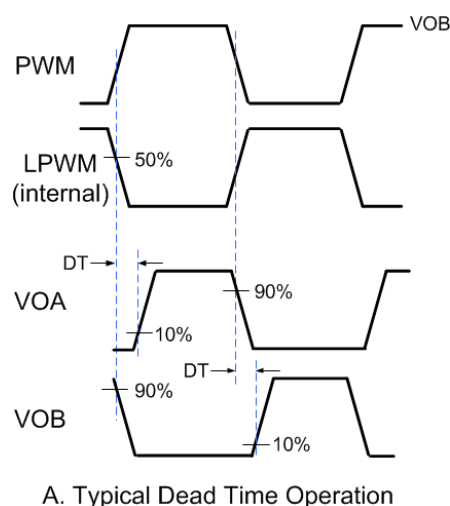
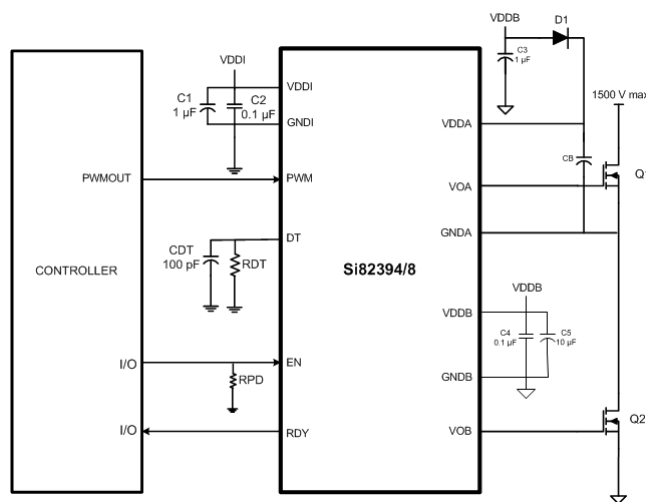

Figure 2.18. Dead Time Waveforms for High-Side/Low-Side Drivers
Figure 3.1. Si82394/8 Application Diagram
All high-side/low-side drivers (Si82394/8) include programmable dead time, which adds a user-programmable delay between transitions of VOA and VOB. When enabled, dead time is present on all transitions. The amount of dead time delay (DT) is programmed by a single resistor (RDT) connected from the DT input to ground per the equation below. Note that the dead time pin should be connected to GND1 through a resistor between the values of 6 k Ω and 100 k Ω and a filter capacitor of 100 pF in parallel as shown in Figure 3.1 Si82394/8 Application Diagram on page 18. It is highly recommended it not be tied to VDD1. See Figure 2.18 Dead Time Waveforms for High-Side/Low-Side Drivers on page 17 below.